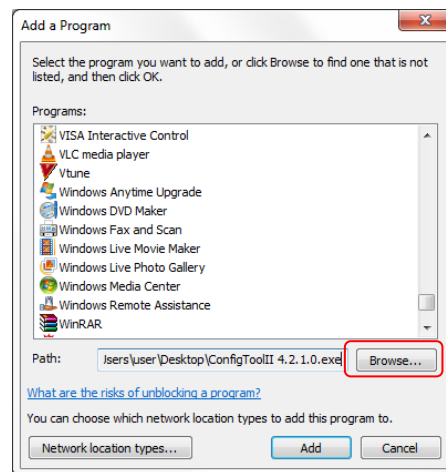

Figure 86 - Browsing for executable to add
- Click the “Browse...” button. Refer to Figure 86.